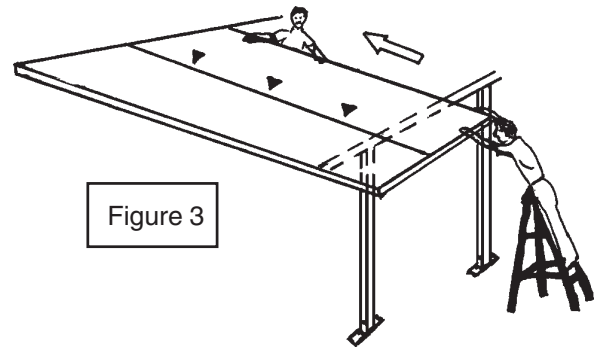

Figure 3
2. Install posts and front support beam, allowing for overhang and minimum slope of ¼" per foot (See figure 3). Or, if you are installing a screenroom underneath your new insulated top, go ahead and fully erect your front screen wall (See pages 1-3 of your 2" extruded porch enclosure system for instructions on how to erect your front screen wall. Please note that you will come back after you install your insulated top and erect your two side screen walls last.)
5. Install the first panel into position, with the male side (the male side you just trimmed off) towards the outside perimeter. (See Figure 3.)
6. Run a thin bead of sealant in the top channel of the Male end. Then, take the second panel (start it just past the receiving channel), raise it up and snap it down (see figure 5), then pushing from the front of the cover back towards your house, slide it into the receiving channel. Be sure to slide it back into the receiving channel right away before the sealant begins to set. Repeat for all remaining panels (see figure 3). As you install you panels, now is a great time if you are installing the P602 white tar tape to also tar tape seal all seams on top of the insulated roof. This includes where the insulated panels join each other, and also where the front, side, and rear extrusions meet the panels as well.